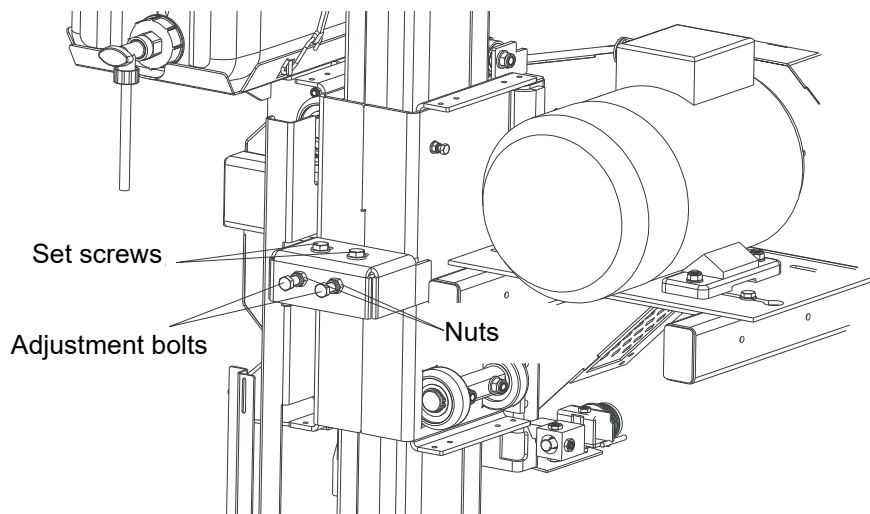
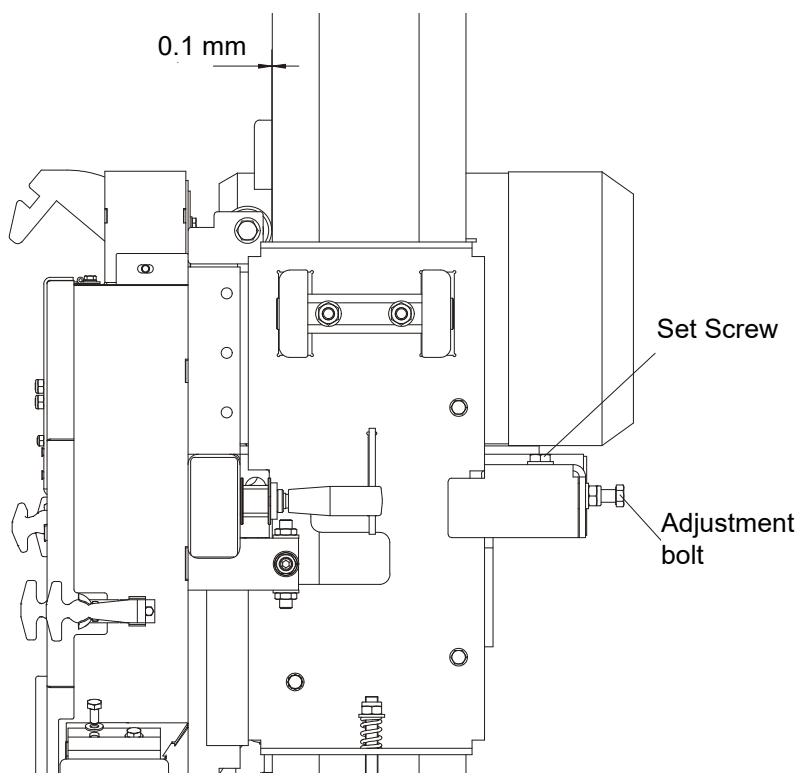

FIG. 5-16
FIG. 5-17
1. Loosen the nuts on the adjustment bolts and the set screws shown in Figure 5-16, adjust the mast guide rollers as shown in Figure 5-17.
See Figure 5-16.
See Figure 5-17.